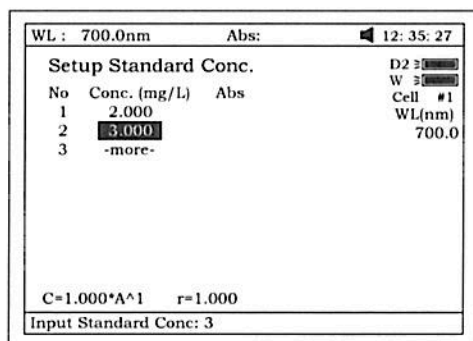
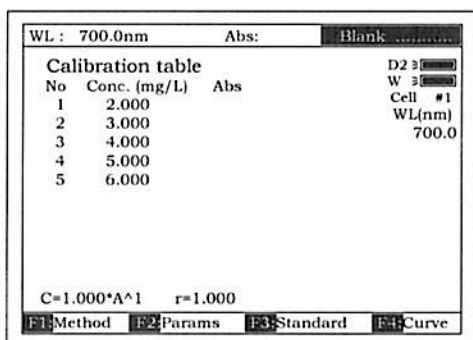

Fig 31
Fig 32
- 3.3.1 Enter standard concentrations of samples by pressing the Numeric keypad followed by **【ENTER】**. Press **【^】** or **【V】** to modify the inputted data (Fig 31). Press **【ESC/STOP】** to finish inputting and to exit (Fig 32).
- 3.3.2** Push the blank cuvette into the Reference Light Path and Main Light Path, press **[0Abs/%100T]**, the instrument will step to the wavelength and blank. See Fig 32.